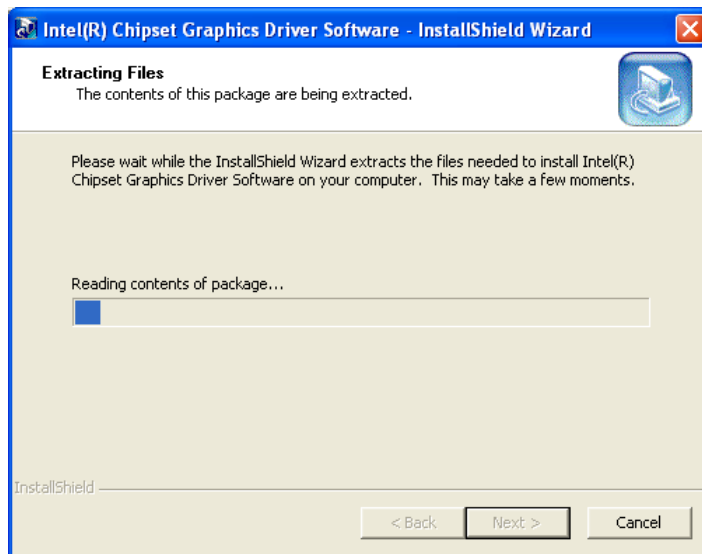

Figure 7-9: VGA Driver Setup Files Extracted
Step 5: The installation files are extracted. See Figure 7-9.